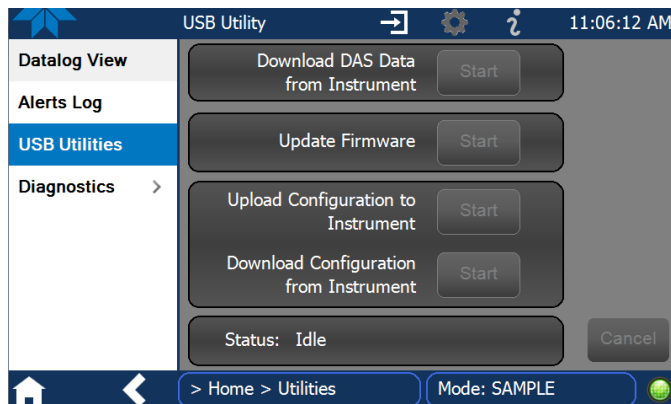

Figure 2-51. USB Utility Page
8. Press USB Utilities menu to open the utility page (Figure 2-51).